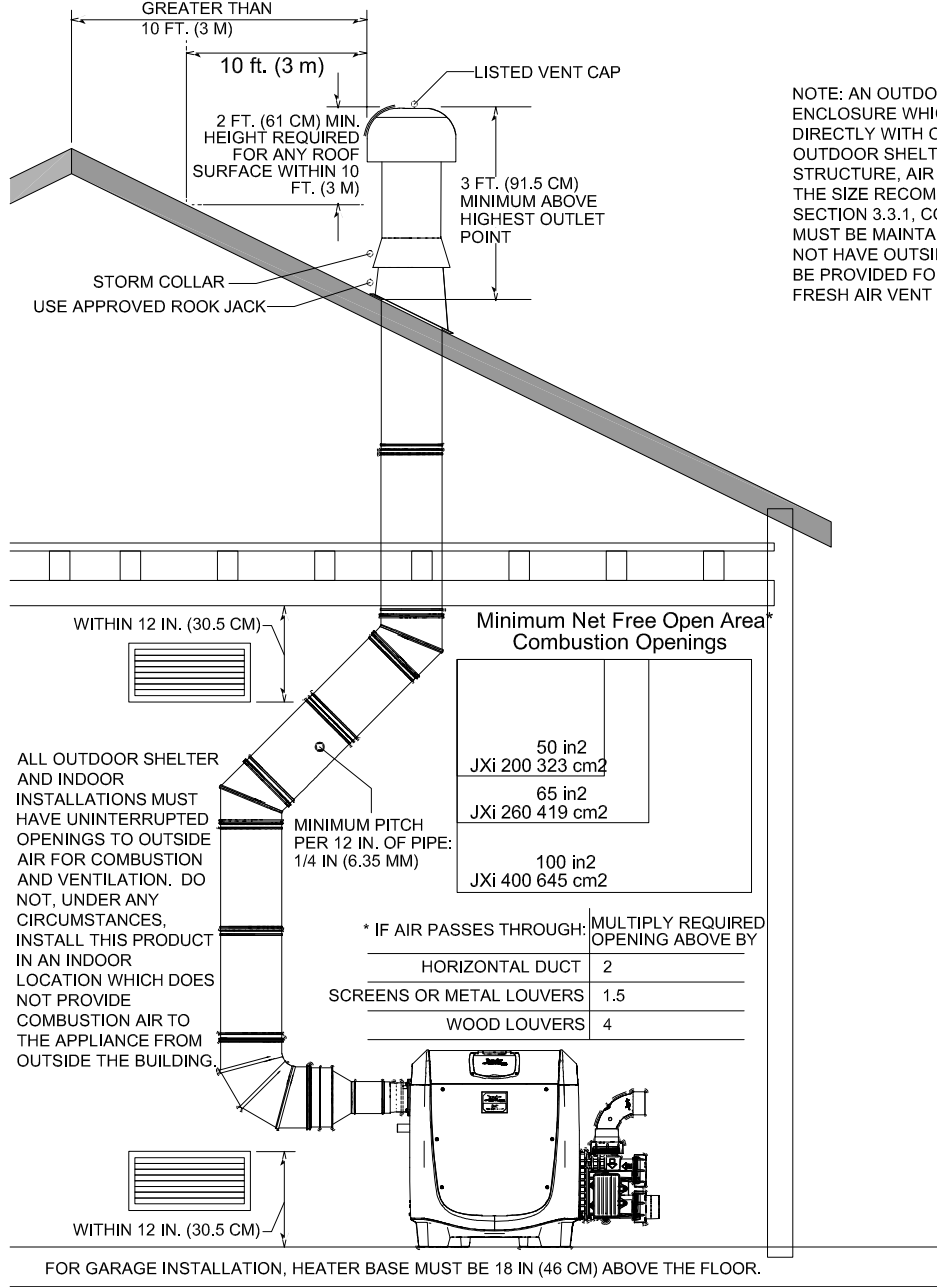

FIGURE 4
- HORIZONTAL RUNS MUST BE SLOPED UPWARDS AWAY FROM THE HEATER TO A VENT TERMINAL AT A MINIMUM OF 1/4 IN PER HORIZONTAL FOOT (2 CM/M). SEE FIGURE 4.